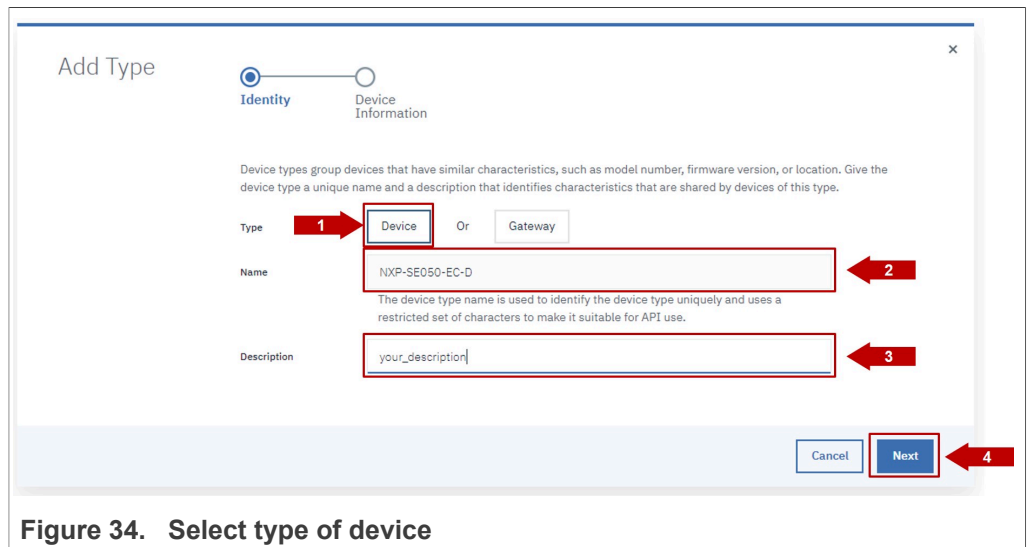

Figure 34. Select type of device
2. Select either **Device** or **Gateway** type, enter a device type name: **NXP-SE050-EC-D** and optionally, add description for the device type. Click **Next** as shown in Figure 34: